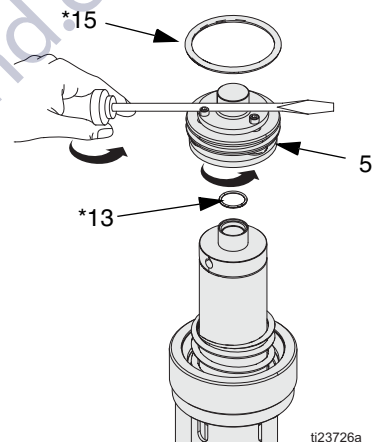

FIG. 12 Series B Air Valve
3. *Series B (and later Air Motors):* Unscrew air valve (5). If necessary to assist turning, wedge a screwdriver blade between the screw heads and the hex cap of the air valve (5). Inspect o-rings (13* and 15*) for damage and replace if necessary. Ensure o-ring (13*) is correctly positioned and not pinched. See FIG. 12.
**NOTE: See Air Motor Repair, step 3 and step 4 (FIG. 12) for special notes on reassembly.**